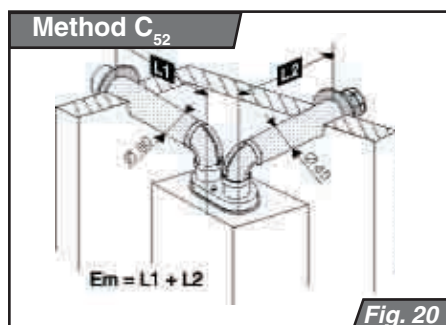

Fig. 20
Separate ducting can also be used to remove combustion gases and supply combustion air (see Fig. 20). The separate ducting routes must not be terminated at mutually opposite building walls.
a) façade-to-façade (i.e. between the outside edge of the outlet cage and the opposite façade) (Fig. 20):